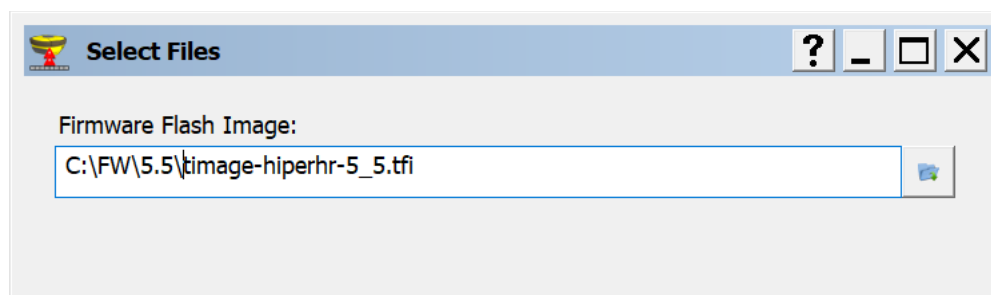

Figure 5-7: Select Files
15. Select **Next**. The **Select Files** screen opens (Figure 5-7). Select the  button, browse to, and select the receiver's "*.tfl" file.